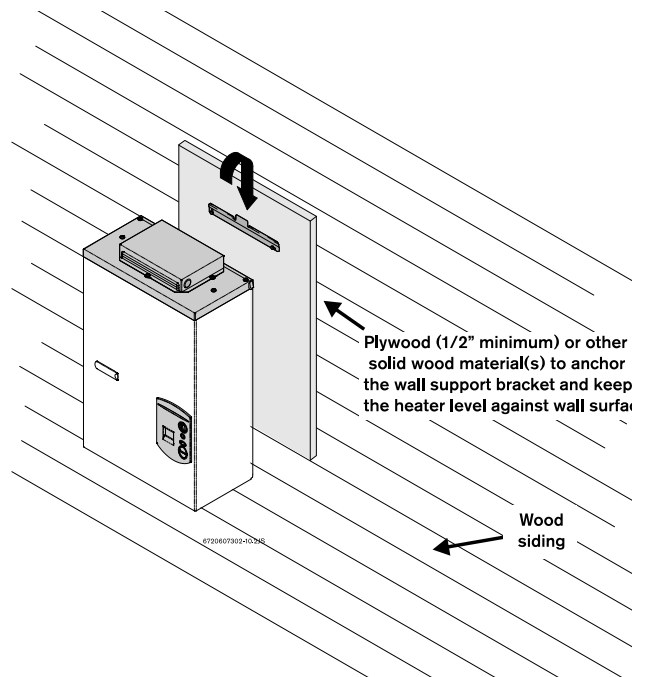

Fig. 9
- The water heater is design certified for mounting on a wall. Secure the wall mounting bracket provided with the water heater to a wall surface. See Fig. 9.